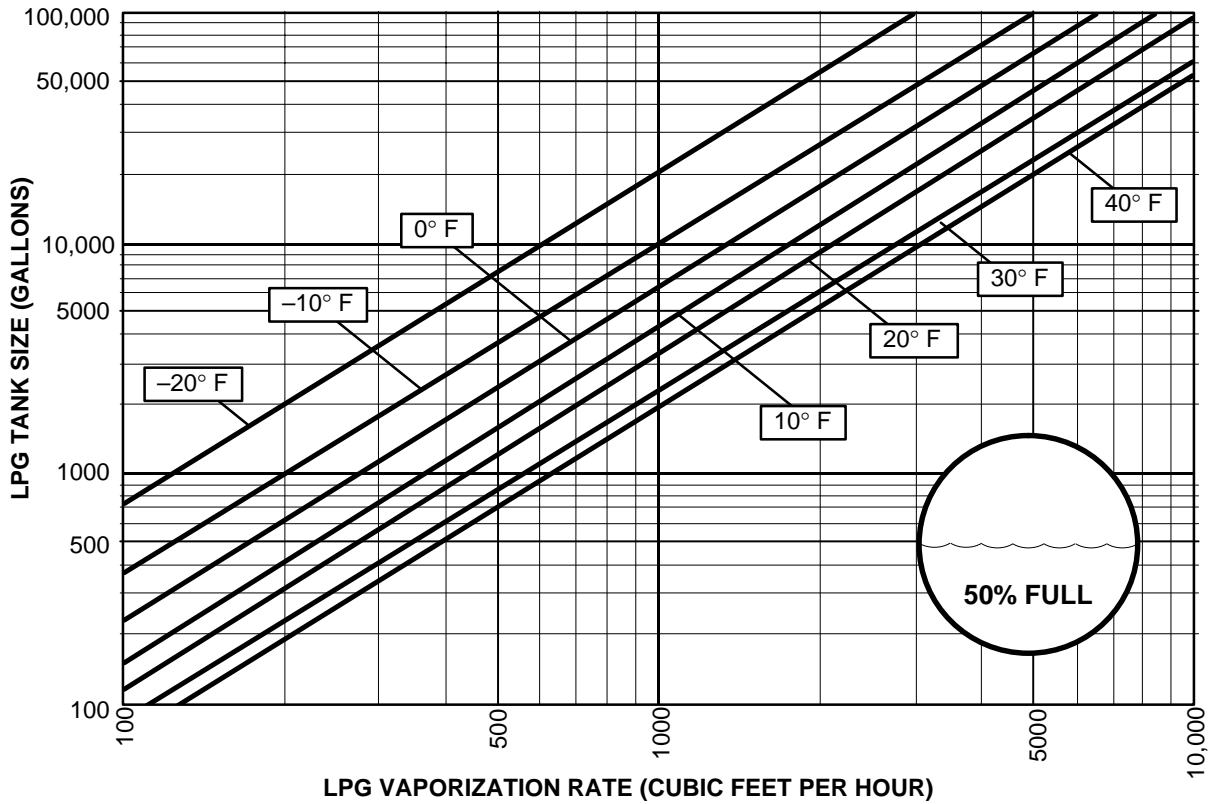

Figure 6–32. Minimum LPG Tank Size (50% Full) Required to Maintain 5 PSIG at Specific Withdrawal Rate and Minimum Expected Winter Temperature
Figure 6–31 illustrates the typical gas line components in an automatic–transfer, dual–fuel system (natural gas and LPG). Single fuel systems (natural gas or LPG) use the noted portions of the components on this drawing. Not shown is the LPG vaporizer supplied with Cummins Power Generation generator sets equipped for liquid withdrawal of LPG (engine–mounted on outdoor sets only). Service pressure regulators, dry gas filters and manual shutoff valves are typically provided by the installer but are available as accessories from Cummins Power Generation.
- A dry fuel filter should be installed in each line as shown in **Figure 6–31** to protect the sensitive pressure regulating components and orifices downstream from harmful foreign substances carried along in the gas stream (rust, scale, etc.).
Tank Size: Use **Figure 6–32** as a quick reference for sizing an LPG tank on the basis of the lowest ambient temperature expected. For example, on a 40F day, withdrawal at 1000 ft³/h requires a 2000 gallon tank at least half full. Note: In many instances the amount of fuel required for proper vaporization is far greater than that required for the number of hours of operation stipulated by code.